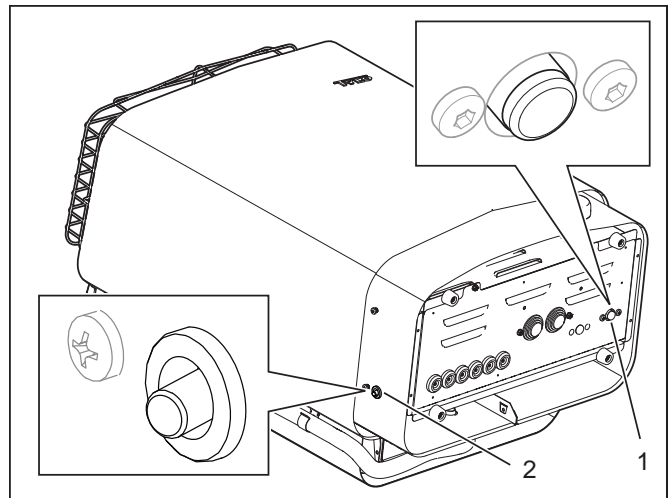

Figure 9: Resetting the temperature cut-out
- **Water reservoir** - The temperature safety switch in the reservoir is designed to protect the heater element from boiling dry. There is a red reset button under the heater which must be pressed in (see Fig. 9). If the cut-out has activated, the button will feel stiff and will 'click' when reset. If the cut-out has not activated and after resetting, the button will feel springy.
- **Heater** - The temperature cut-out in the heater protects the components and woodwork in the sauna from overheating. There is a white reset button on the left side of the heater which must be pressed in (see Fig. 9). If the heater safety switch has activated, the button will feel stiff and will 'click' when reset.